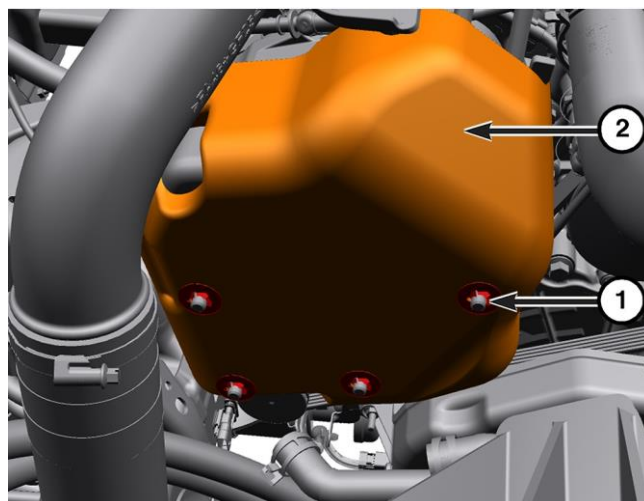

Figure 59 – HPFP Cover
2. Remove the retainers (1) that secure the cover (2) for the high-pressure fuel pump (Figure 59).
44. Install the cover and secure with the retainers (Figure 59).